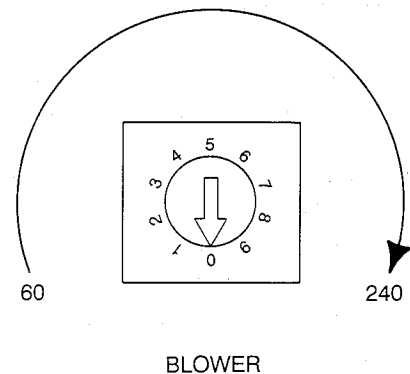

Fig. 10—Blower-Off Delay RSW1 Dial
4. Rotate blower-off delay switch to desired airflow per Table 4 and Fig. 10.